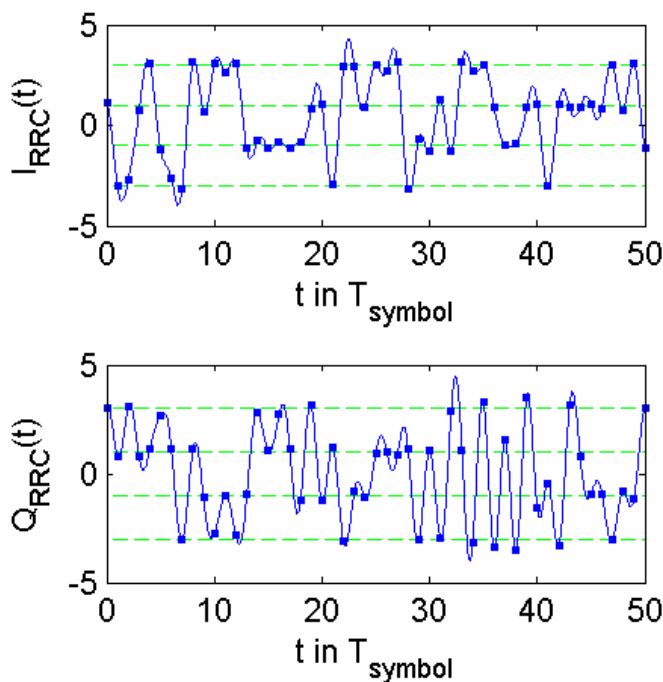

Fig. 2-47 Root raised cosine filtered dirac signals $I_{RRC}(t)$ and $Q_{RRC}(t)$
In a cable TV receiver, a filter of the same shape is used as RX filter. The combination of two root raised cosine filters, one in the transmitter (TX) and another one in the receiver (RX), has a very strong property: There will be no inter-symbol interference at the RX filter's output. Due to this property it is very easy for the receiver to retrieve the transmitted symbols. Please note, that in a real-world scenario the channel (causing echoes / multipath propagation) causes inter-symbol interference. In that case the use of an equalizer is recommendable. Fig. 2-47 shows the signals $I_{RRC}(t)$ and $Q_{RRC}(t)$ that result from filtering $I_{dirac}(t)$ and $Q_{dirac}(t)$ with the root raised cosine filter **RRC**.